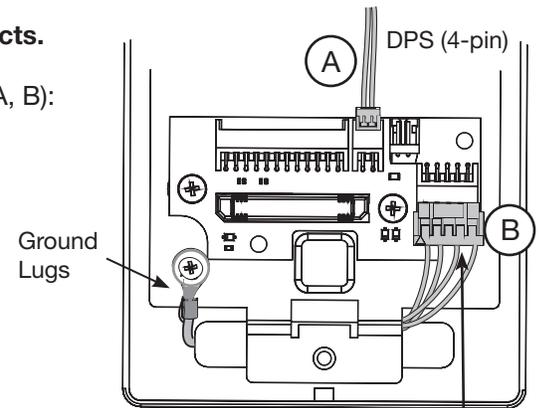
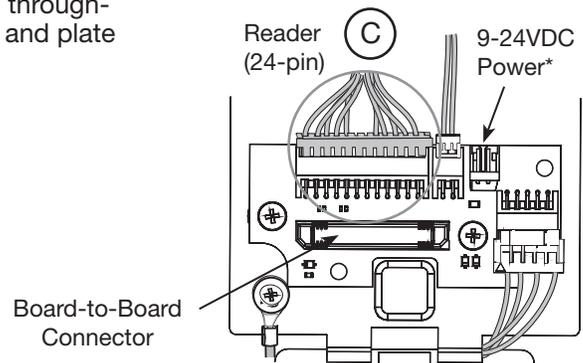

Fig. 11A
Fig. 11B
Secure the following connectors to their respective terminals (Fig. 11A, B):
IMPORTANT: Do not run wires through bottom hole in plate (Fig. 11A, B) - it will damage wires and the controller connector. Route wires around flange, do not route wires through the flange hole (Fig. 11B).
2. Secure the mounting assembly while ensuring proper alignment of outside reader and **fully** tighten the (2) through-bolts on the inside of the door to secure the reader and plate to the door.
C. Secure the 24-pin card reader connector (Fig. 11B).